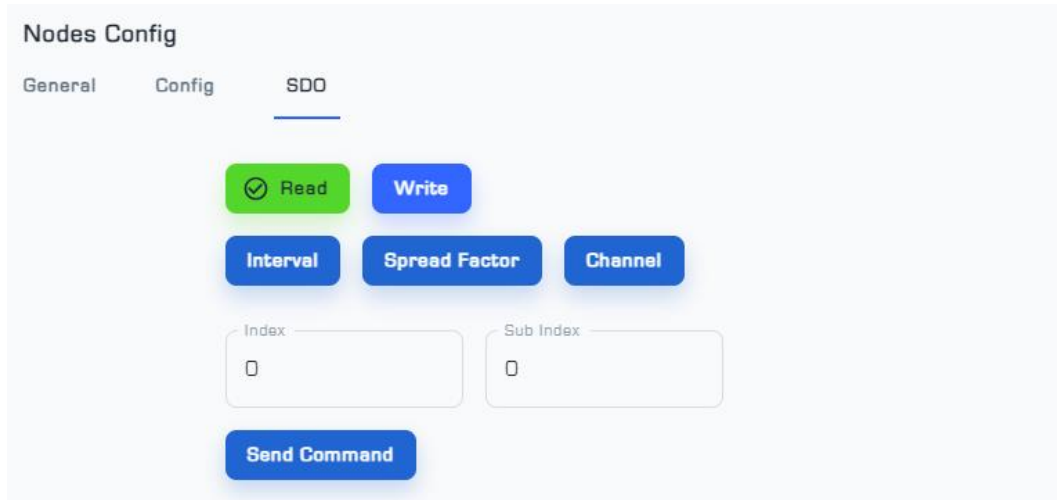

Figure 7: SDO Menu from Nodes Setting page
- The SDO menu is used to change the parameters of Interval ¹, Spread Factor, and Channel² (Figure 7).